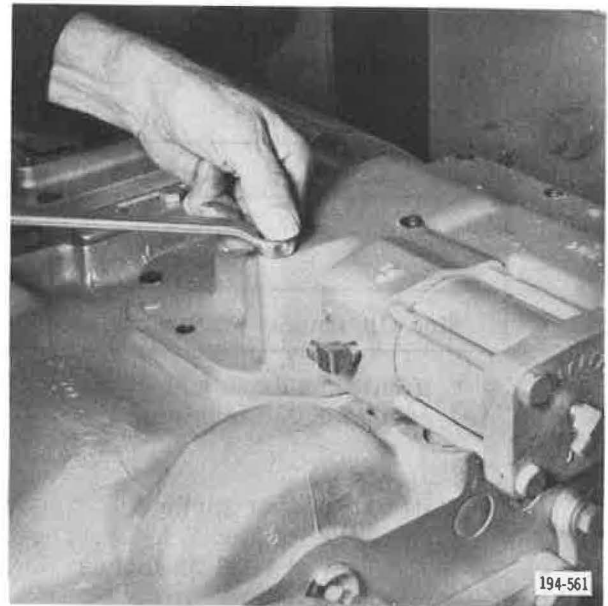

Figure 5-563. Installing Capscrews
3. Install air shift cover capscrews, and tighten to recommended torque. See Figure 5-563. Refer to Torque and Tolerance Table, Item 3.